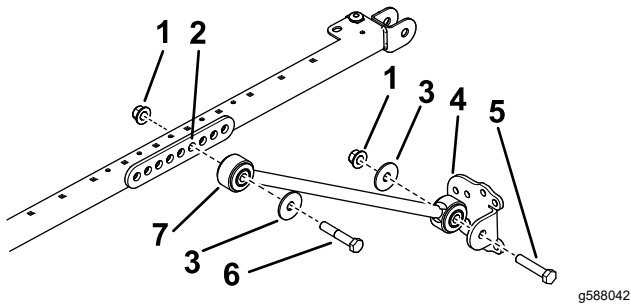

Figure 48
5. On each side of the sunshade frame, loosely mount an extension link to the fourth hole of the brace mount with 2 bolts (1/2 x 2-3/4 inches), and 2 flange nuts (1/2 inch) as shown in Figure 48.
6. Loosely install a brace bracket to each brace with a bolt (1/2 x 2-1/2 inches), washer (1/2 inch), and flange nut (1/2 inch) as shown in Figure 48.